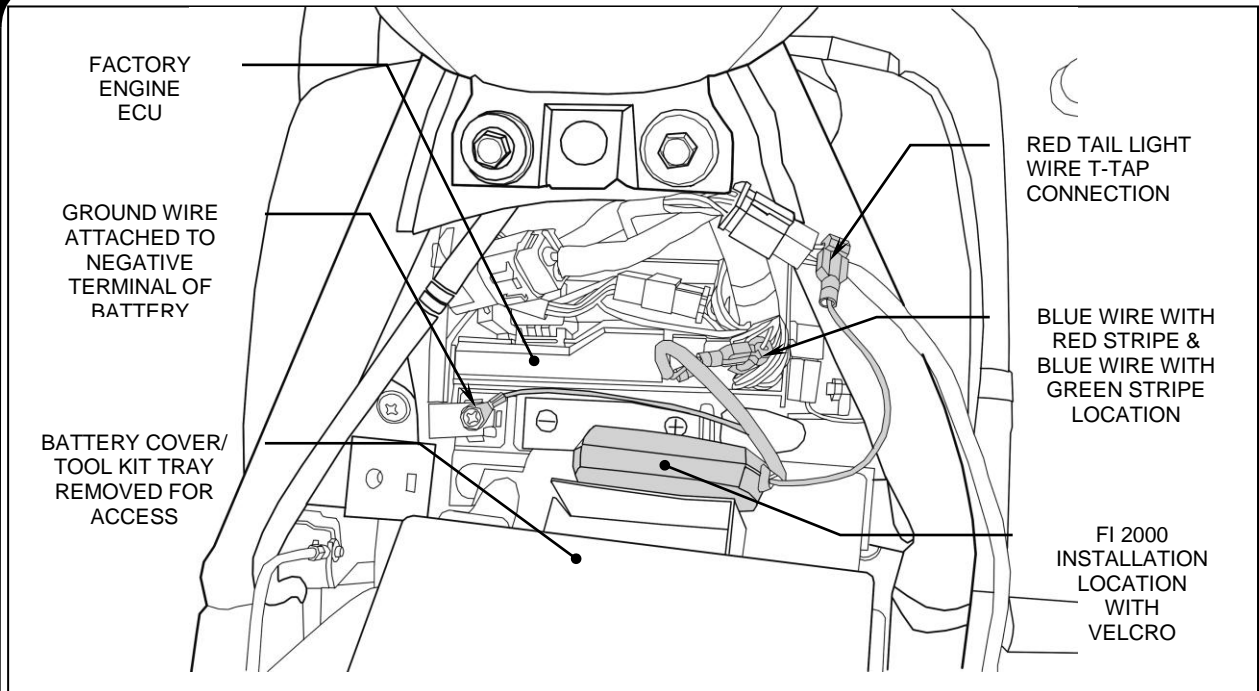

FIGURE 1: Fi2000 ECU AND T-TAP CONNECTION LOCATION
2. Locate the red wire on the taillight wire loom, this harness runs down the right side of the motorcycle on the right side under the seat, see Figure 1. Attach a T-tap connector onto this wire where it is exposed behind the female connector.
3. Locate the ECU and find the exposed wires exiting it on the right side. Locate the blue wire with the red stripe, and next to it, the blue wire with the green stripe, where the wires are exposed attach T-tap connectors to each wire, see Figure 1.
6. Remove the door from the Fi2000 module to expose the LED's. Verify the wire connections by, (1), turning on the ignition while watching the 3 LED's. They will all light up and remain on until the engine is started. This is correct. If there are no lights visible, make sure the side stand is up, bike is in neutral, clutch is in and handlebar engine switch is set to run. If there are still no lights visible, re-check that all connectors are fully engaged and the ground wire is connected correctly. (2), After achieving a steady light from all three LED's, start the motorcycle; the green light should now be the only LED on. If all three LED's are still on after start up, verify the injector connectors are correctly attached. Reattach the access door when finished and install remaining components.